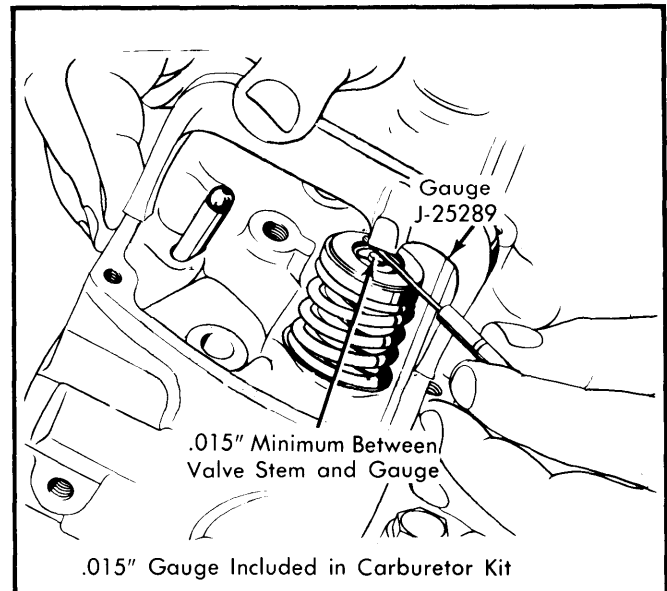

Fig. 4 Measuring Valve Stem Height
2) Measure valve stem height whenever new valve is installed or after grinding valve. Use valve stem height gauge (J-25289) shown in Fig. 4. There should be at least .015" clearance between gauge and valve stem. If clearance is less than .015", grind tip as required.